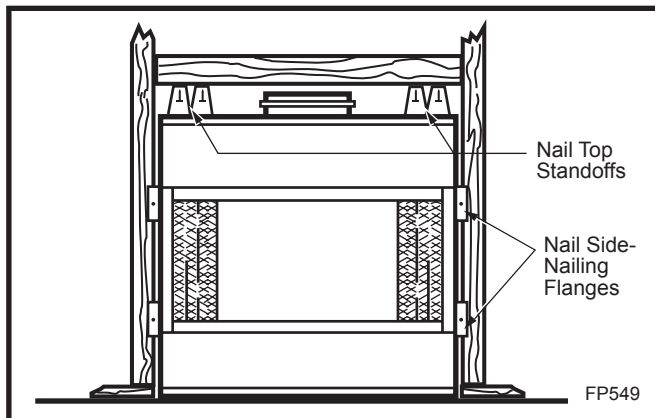

Fig. 6 Adjustable drywall strip (nailing flange).
2. Four (4) nailing flanges are supplied with the fireplace (found on the fireplace hearth). To level the box and secure it firmly in place, remove the nailing flanges from the hearth and install at the sides of the fireplace as shown in Figure 6.